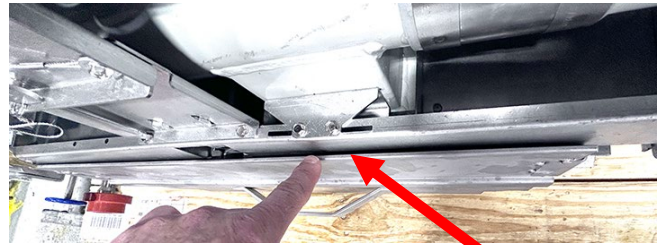

Figure 1
1. Examine where the front top lip of the filter pan and front cabinet brace meet. A slight gap is shown in Figure 1.